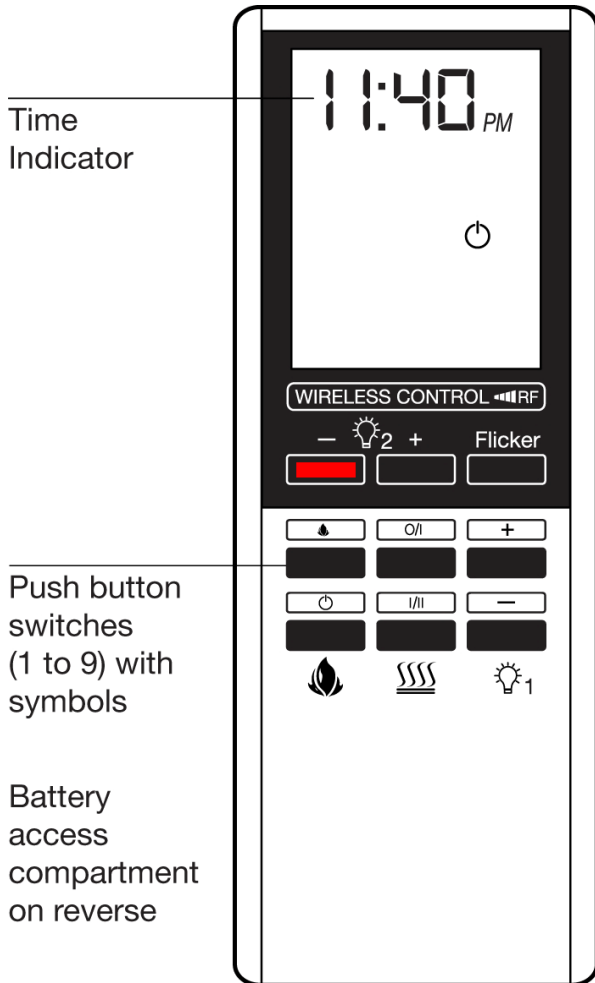
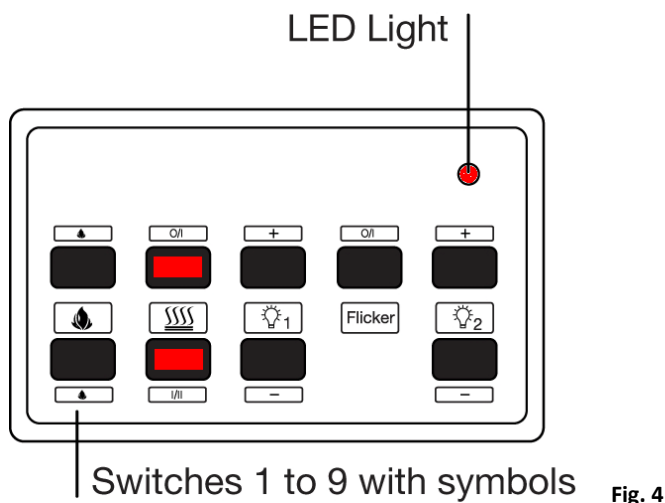

Fig. 3
Fig. 4
1. To turn the fire on (**Fig. 3 and Fig. 4**), simply press and release the **FIRE ON** or button on the remote or manual keypad.
1. Make sure the fire is plugged in at the mains, turned to standby (I on main on/off switch) and the LED on the manual keypad is lit **Fig. 4**.
3. Press the  button on the remote control **Fig. 3**. The fire will turn on & off twice.